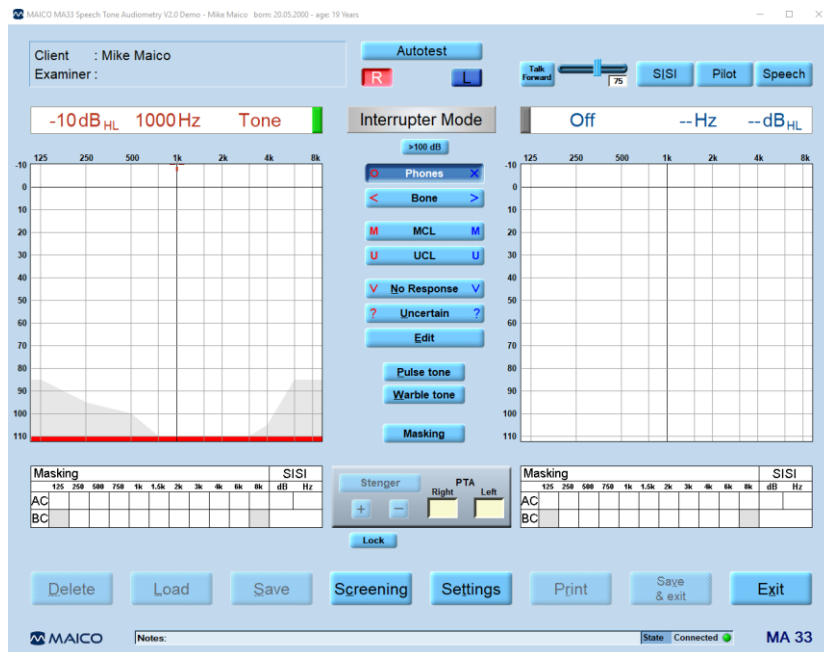

Figure 37
The following settings are displayed after opening the tone screen (Figure 37).
**Note:** Figure 37 shows the **Audiogram View**. The **Table View** can be activated in the **Tone Audiometry Settings**. It is activated per default for **Americas**. Explanation of the buttons are the same as the ones for the **Audiogram View**.